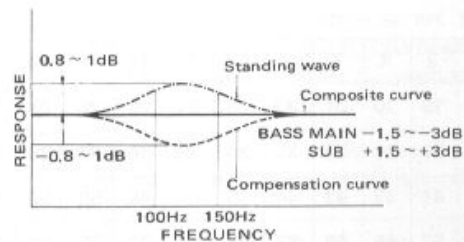

Fig.16 - To improve unnatural low frequencies.
- Low frequencies in the 100Hz - 150Hz region, which delicately influence bass impression, can be enhanced by a 0.8dB - 1.0dB margin. While retaining an overall flat impression, slightly more weight can be obtained in the low frequency band. Since the opposite adjustment can also be performed, such effects as standing waves and extended reverberations, which can occur in steel framework buildings and lend an unnatural influence, are often improved. See Fig. 16.